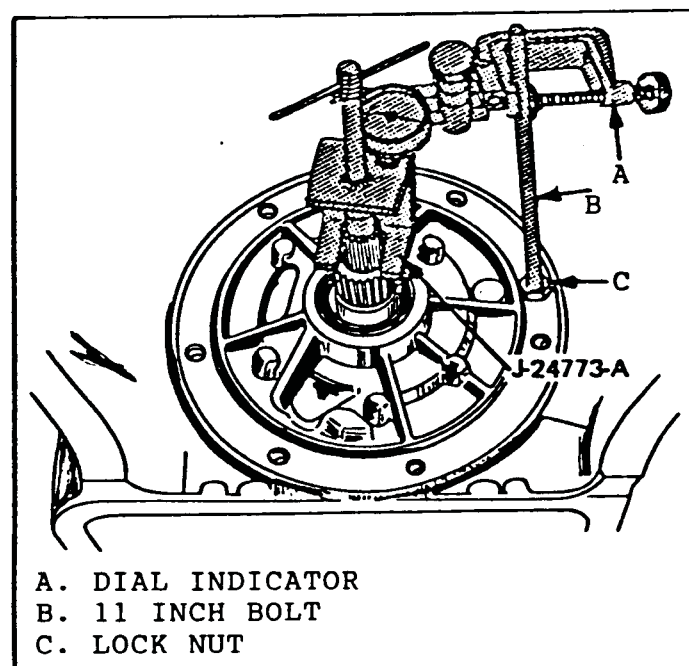

Figure 105
1. Remove a front pump bolt and install an 11" bolt and lock nut (See Figure 105).
3. Install pump remover tool as shown in Figure 105.
4. Install dial indicator, and set to zero (See Figure 105).